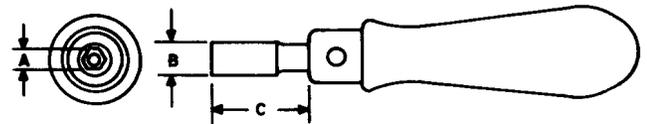

Fig. 1—33 Hex, Single-End Socket Wrench
2.01 **33:** The 33 tool (Fig. 1) is used on precision-type interrupters, vertical drive shafts, and for removing contact protection assembly on A- and B-type sequence switches. The dimensions for the 33 tool are: A = 11/32-inch, B = 1/2-inch, and C = 2-3/4 inches.